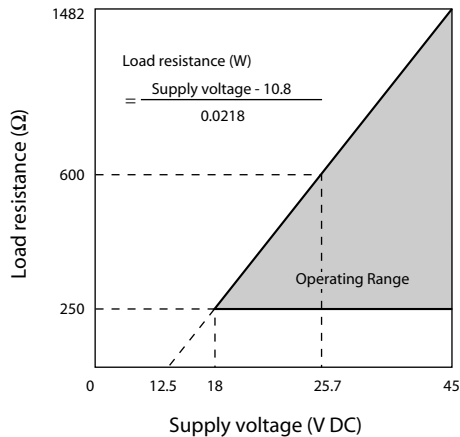

Figure 3 Supply voltage vs. load resistance characteristics
17.9 to 42V DC. Reverse polarity protection is standard. A load resistance of 250 Ω or more is necessary between loops. See Figure 3.